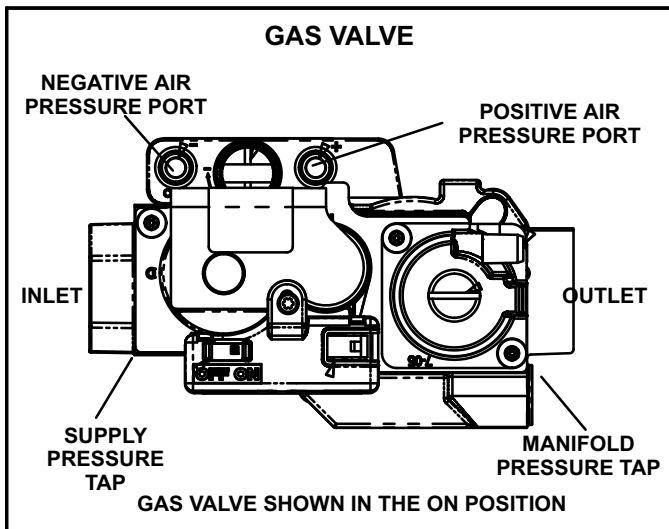

FIGURE 17
The valve (figure 17) is internally redundant to assure safety shut-off. If the gas valve must be replaced, the same type valve must be used.
- 6 - Turn switch on gas valve to **OFF**. Do not force. See figure 17.
- 8 - Move switch on gas valve to **ON**. Do not force. See figure 17.
A port on the inlet side of the gas valve provides access to the supply pressure tap. See figure 17. Loosen the screw and connect a manometer to measure supply pressure. The minimum supply line pressure is 4.5" - 10.5" w.c. for natural and 11.0 - 13.0" wc for LP/Propane. Tighten after measurements have been taken.
- 2 - Remove the threaded plug from the outlet side of the gas valve and install a field-provided barbed fitting. Connect measuring device positive "+" to barbed fitting to measure manifold pressure. See figure 17 for manifold location.